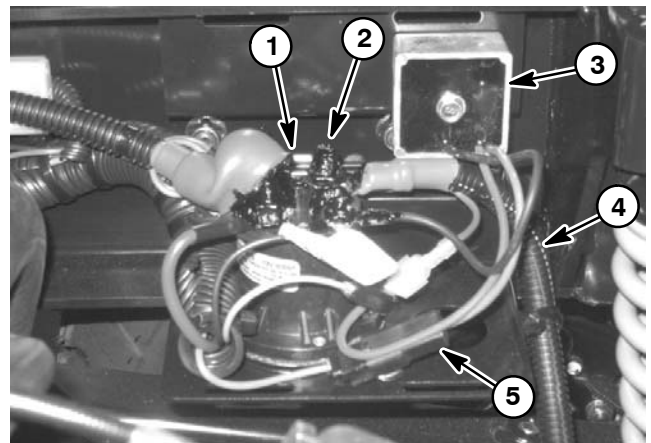

Figure 14
3. Make sure all wires in the charging circuit are connected correctly and tightly. Note the correct location of starter/generator cable and voltage regulator wire at the start/run solenoid (Fig. 14).
- A. Disconnect green wire connector from voltage regulator (Fig. 14). Connect disconnected green wire lead from starter/generator to ground with a jumper lead.